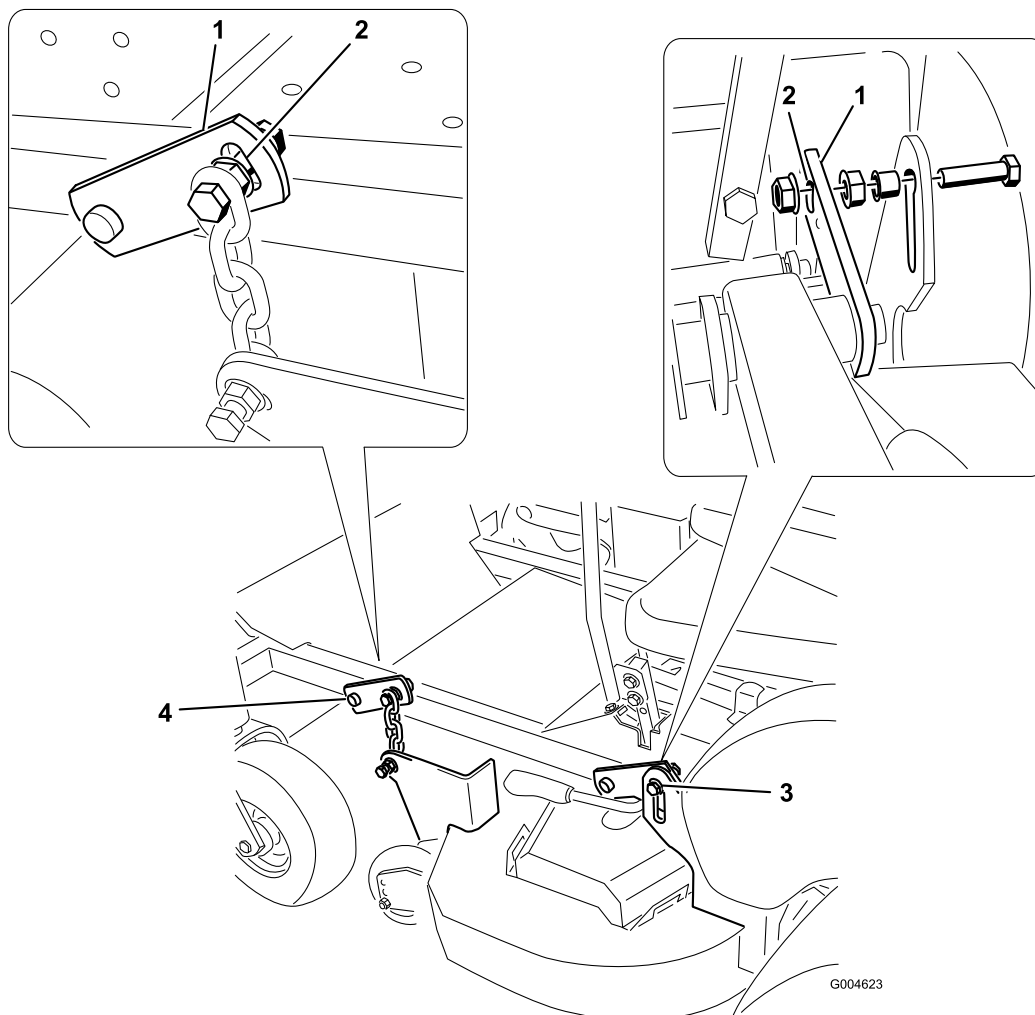

Figure 54
7. Loosen the bolts connecting the two chains and the two rear brackets to the mower (Figure 54).
8. Adjust the two rear bolts so they are in the middle of the slot located in the pivot bracket (Figure 54).
10. Adjust the discharge side front bolt so it is in the middle of the slot located in the pivot bracket (Figure 54).